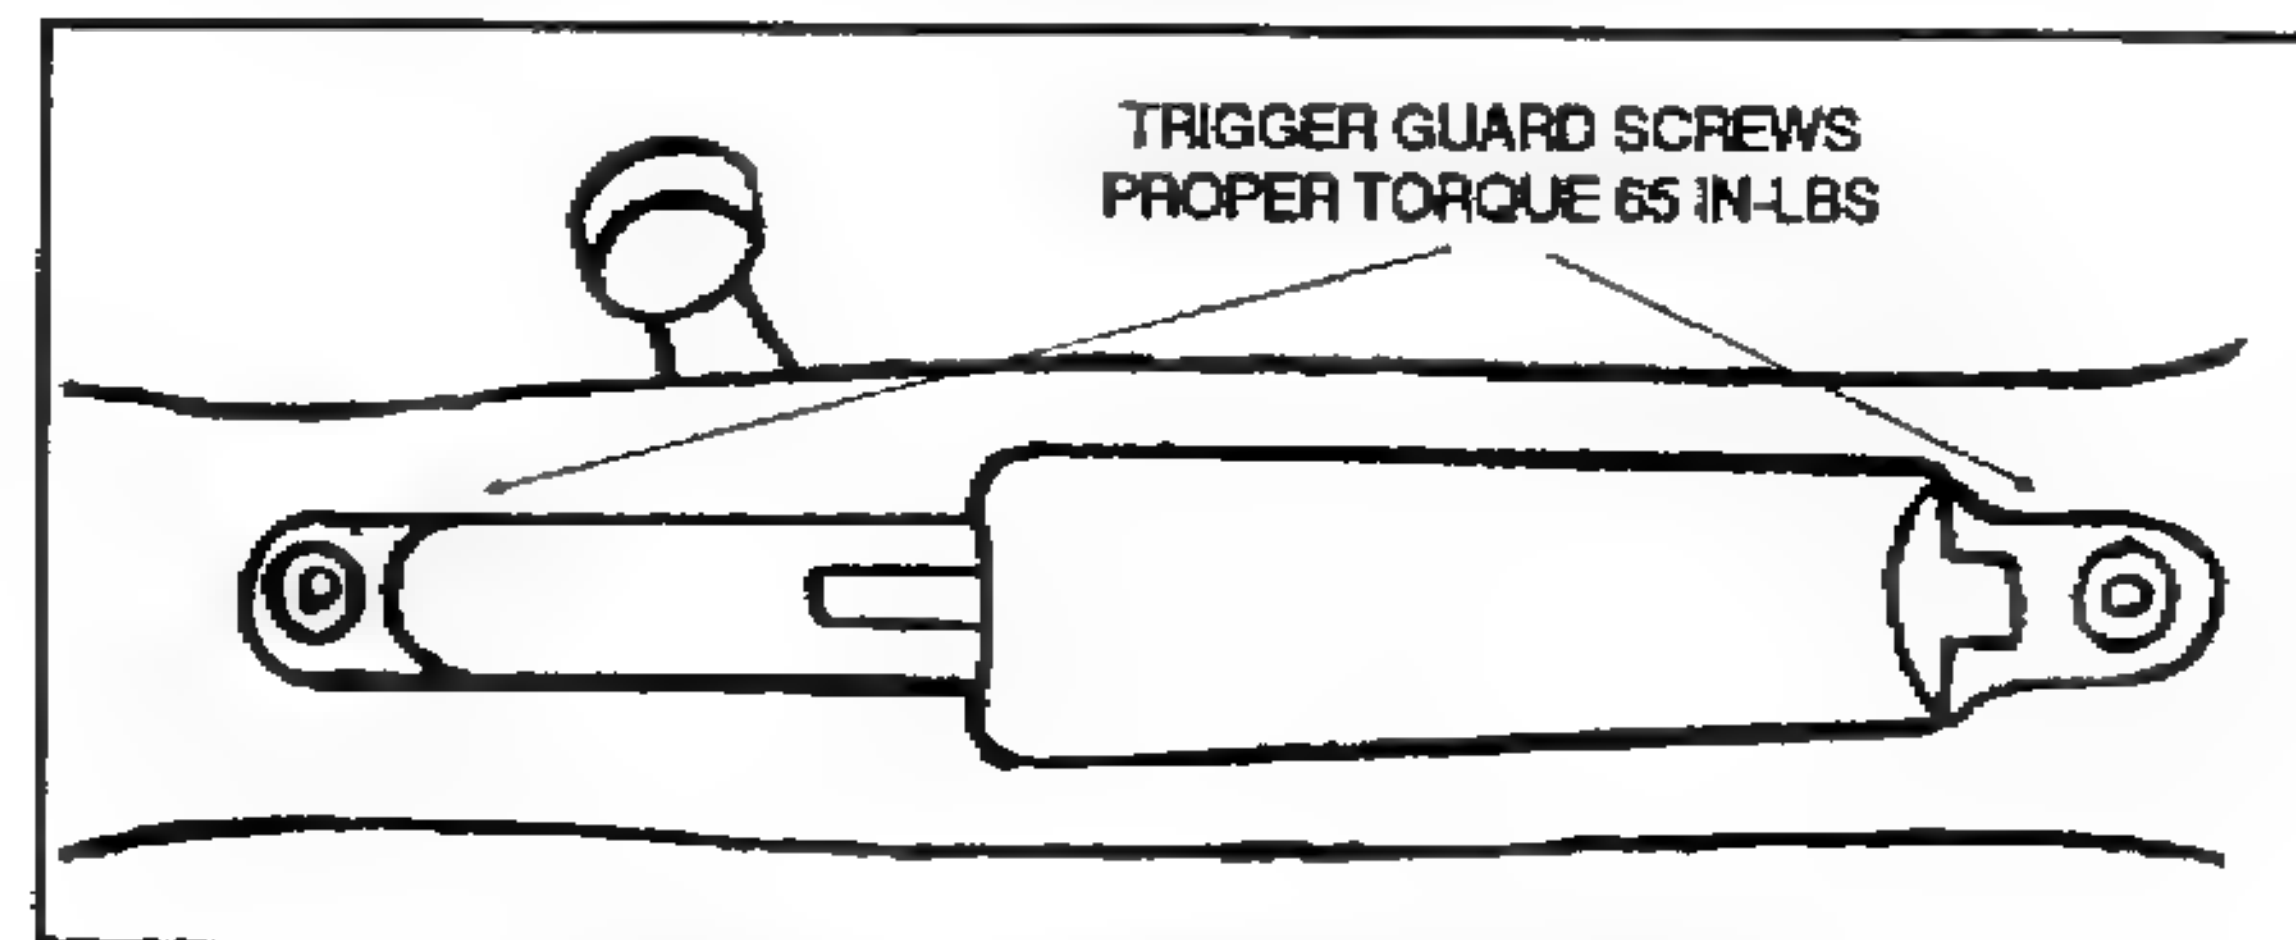

Figure 2-15. Trigger guard screws.
- Loosen the front and rear trigger guard screws (Figure 2-15).